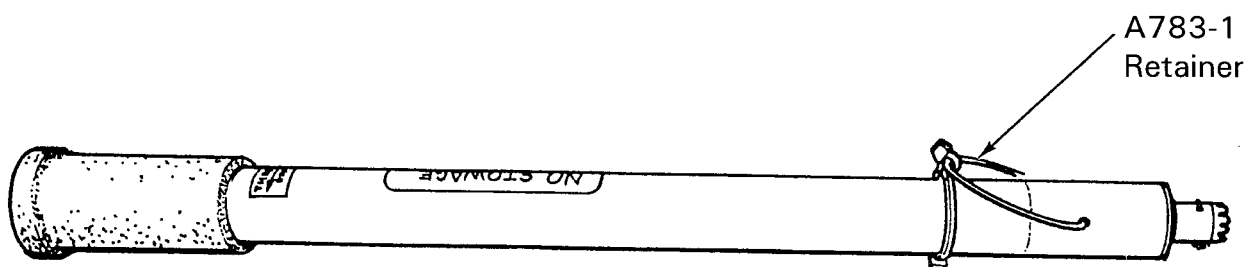

FIGURE 2-4 A783-1 RETAINER SECURITY
**Collective Stick Assembly:** Inspect condition. Inspect bearings per § 2.120. Verify security and operating clearance. Verify no cracks in welds. Verify security of removable stick (if installed). If applicable, verify A783-1 retainer is secured to collective stick with ty-raps per Figure 2-4. \_\_\_\_\_